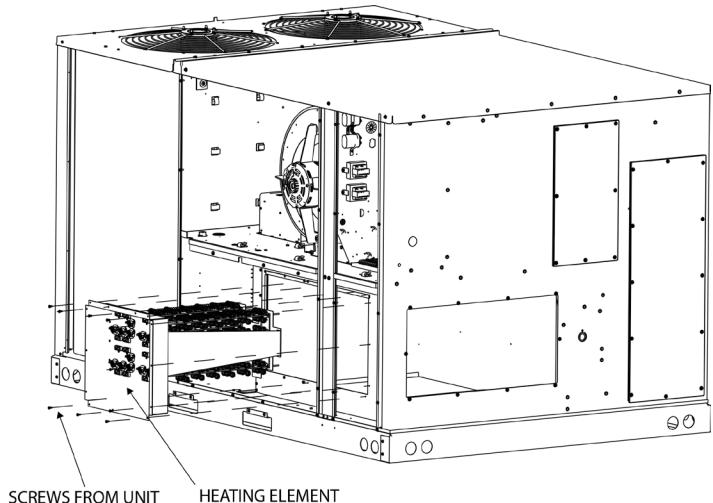

Figure 3
5. Insert heating element part of the heater kit (Figure 2) in the heater box and slide it all the way to the right (Figure 3). Ensure the elements are positioned in the retaining bracket as shown in Figure 4. Install the heater kit using the screws from heater box cover and re-install the left heater cover (small) as shown in Figure 6. It may be necessary to remove the horizontal supply cover to observe the bracket. The right heater box cover can be discarded.